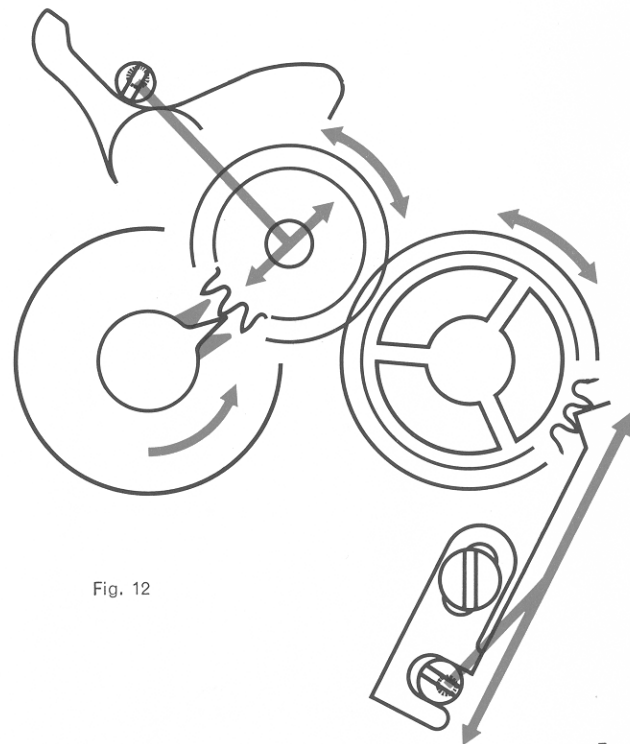

Fig. 12
- Regulate the penetration of the finger by means of the eccentric No. 8406 and the position of the minute-recording jumper by means of the eccentric No. 8407 (fig. 12).